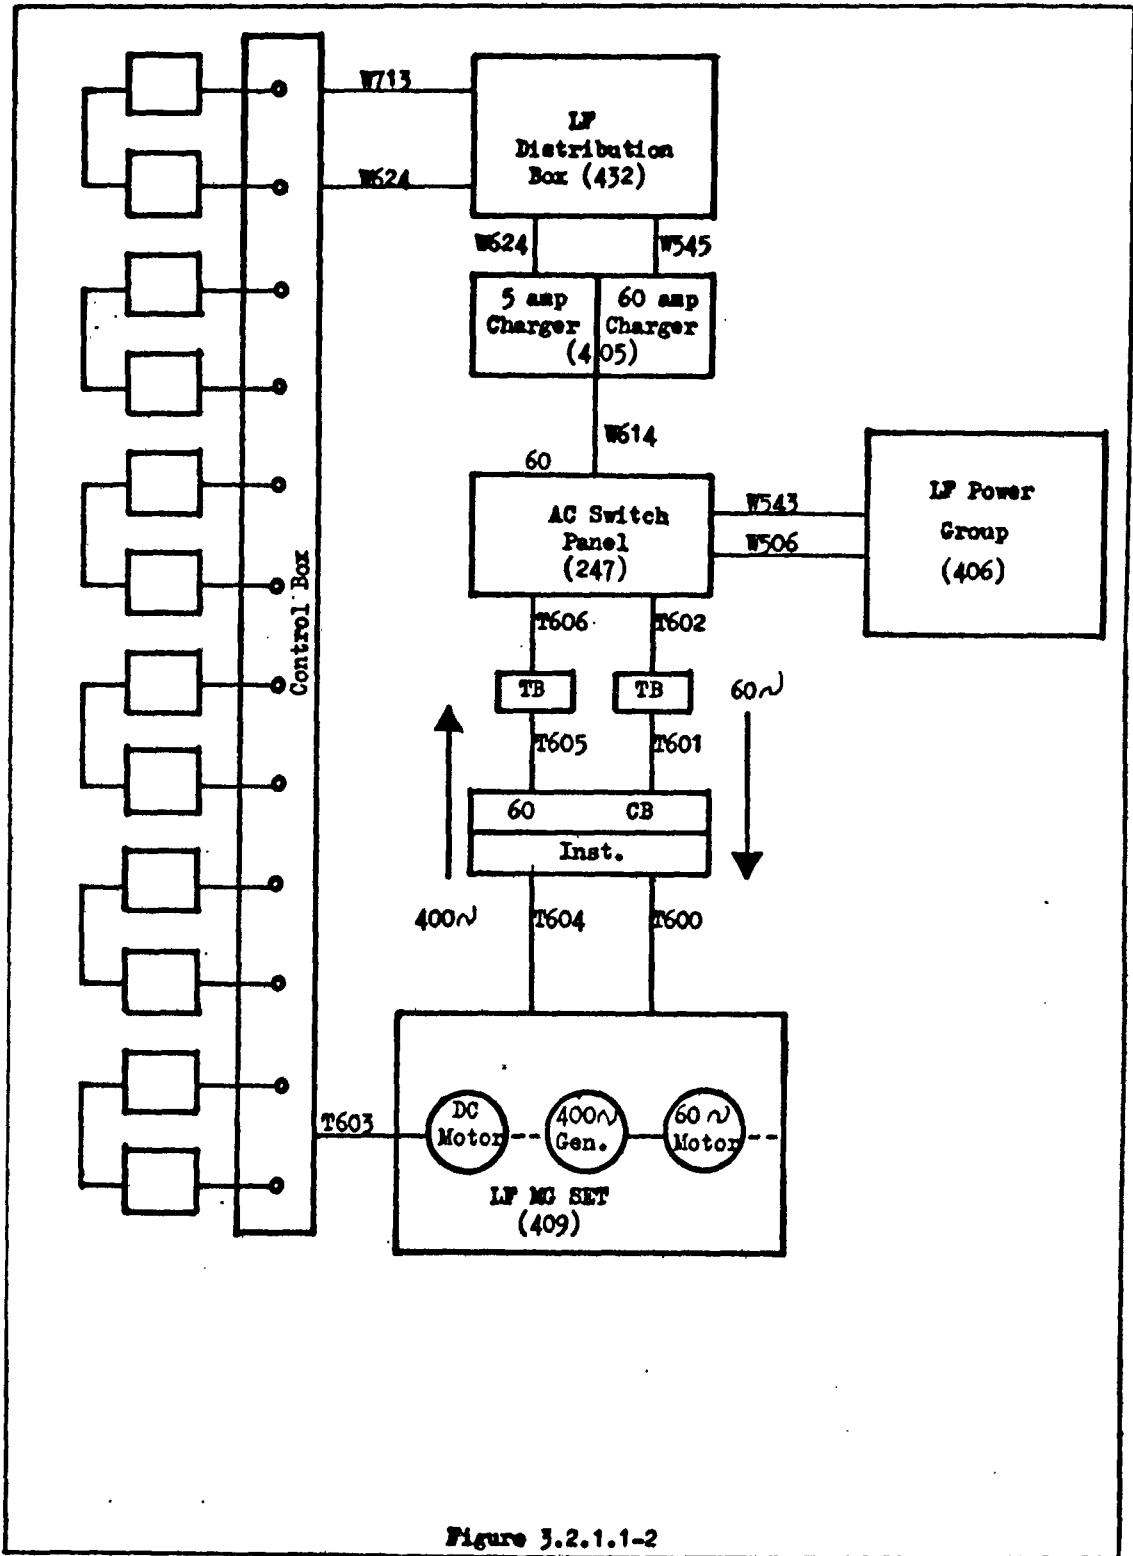

Figure 3.2.1.1-2
3.3 Connect the resistive loads to the power system as shown in Figure 3.2.1.1-1.
3.5 Monitor current, voltage, frequency and power factor at instrumentation selector per Figure 3.2.1.1-2.
3.1 Connect the LP power system per Figure 3.2.1.1-1 except cables to J and J .
3.4 Connect cables per Figure 3.2.1.2-1, to the SCN equipment.